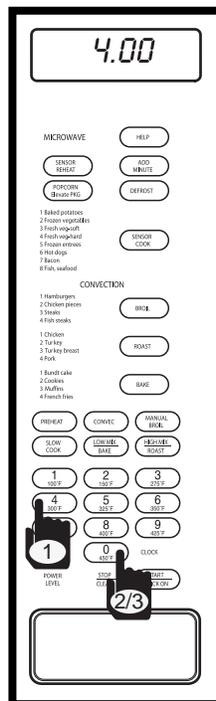

Figure 3-49. Enter Amount of Cooking Time
5. Enter desired cooking program. This example will use Manual Cooking. Enter time duration. For example: 4 minutes; press the number 4 key, and number 0 key twice (See Figure 3-49), and the display will flash “**4.00 - PRESS - START - OR - PRESS - POWER - LEVEL**”.